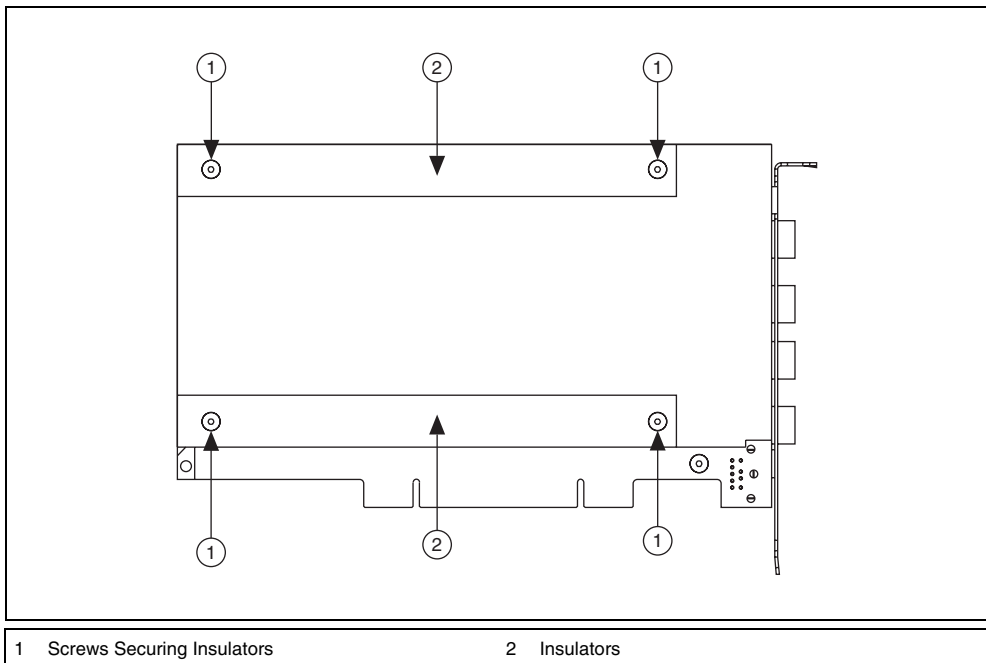

Figure 23. Removing the Insulators from the NI PCI-4060
3. Remove the four screws that secure the top and bottom insulators onto the device, as shown in Figure 23.